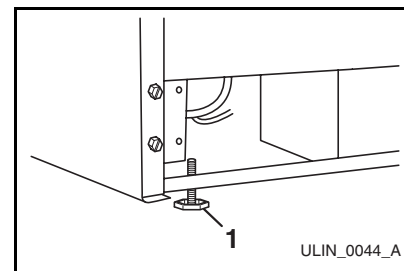

Figure 11
2. If the unit is not level, adjust the feet on the corners of the unit as necessary (**Figure 11**).